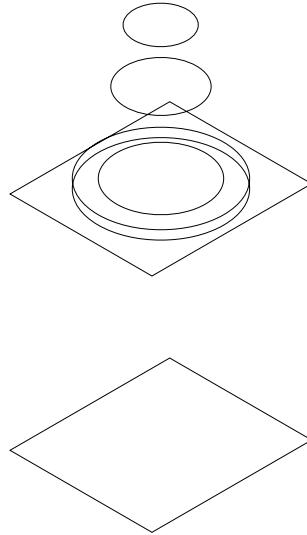
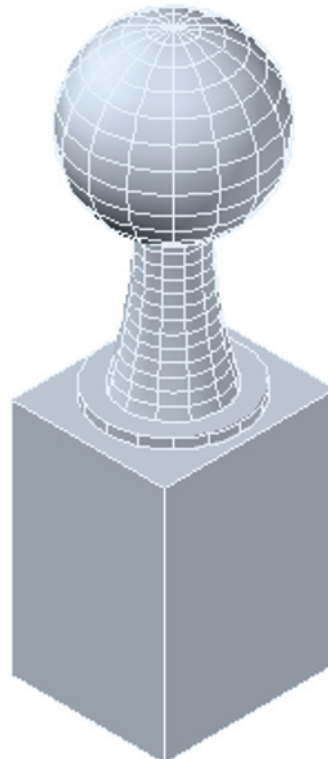

Fig. 13.51 The cross sections for Exercise 10
Fig. 13.52 Exercise 10
10. Construct the cross sections as shown in Fig. 13.51, working to suitable dimensions. From the cross sections construct the lofts shown in Fig. 13.52. The lofts are topped with a sphere constructed using the **Sphere** tool.